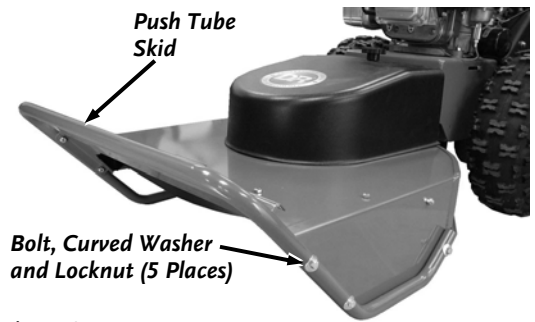

Figure 35
2. Remove the five Bolts, Curved Washers and Locknuts that secure the Skid using two 1/2" Wrenches (**Figure 35**).